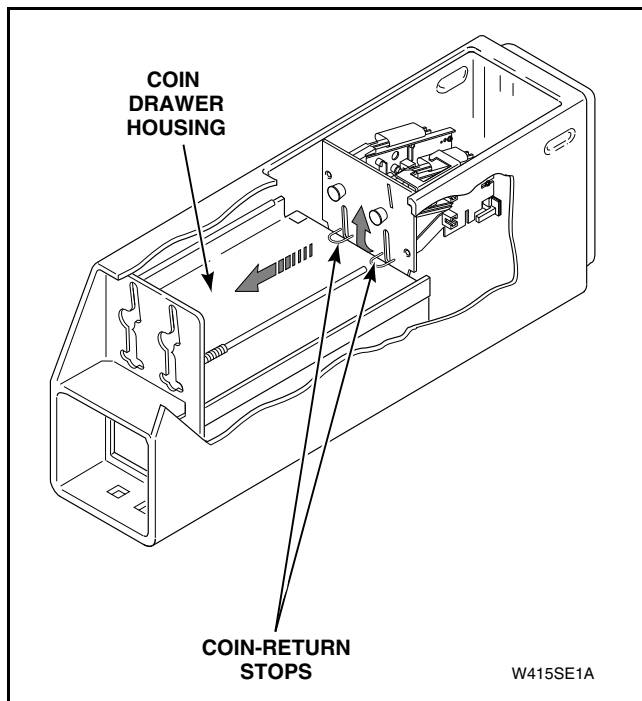

Figure 22
(3) Rest the two coin-return stops on top of the coin drawer housing, as shown in *Figure 22*.